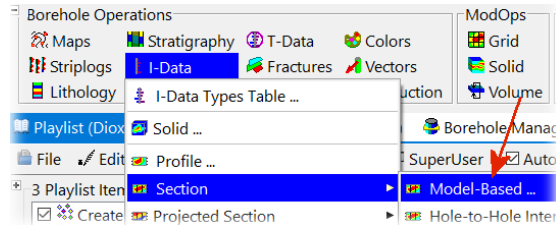

Figure 77
- Open the Borehole Operations / I-Data / Section / Model-Based application (Figure 77).